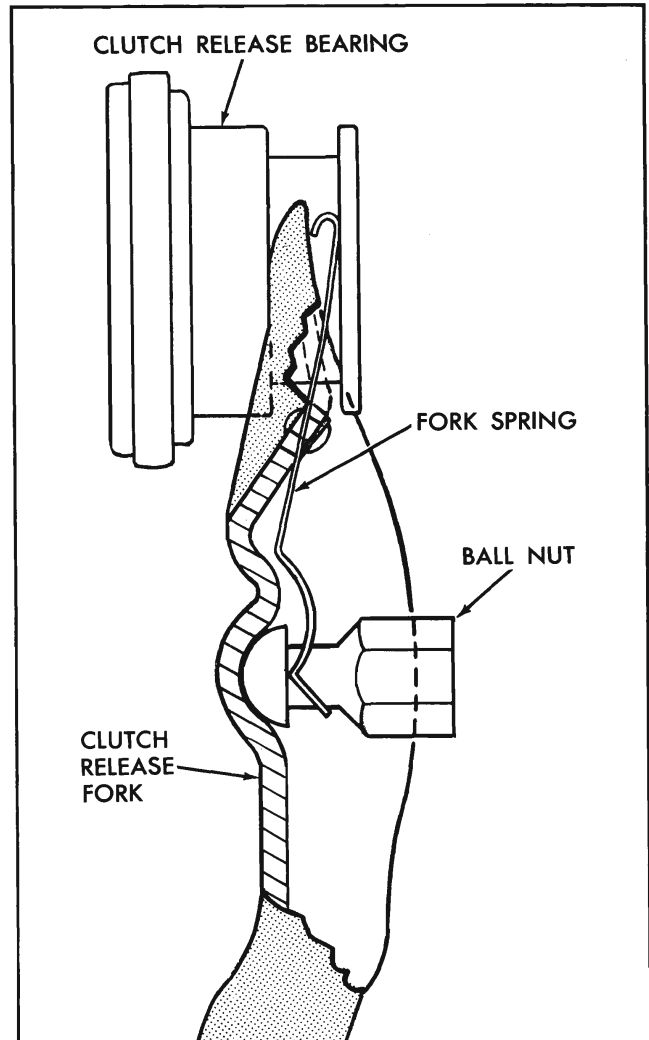

Fig. 6D-7 Fork Installed in Release Bearing
11. Install release bearing and clutch release fork ball in clutch release fork as shown, Fig. 6D-7.